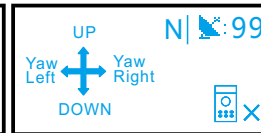

Figure 10-4: Unconnected
- If the drone is not connected, it will display as shown in Figure 10-4, and operation will not be possible at this time.